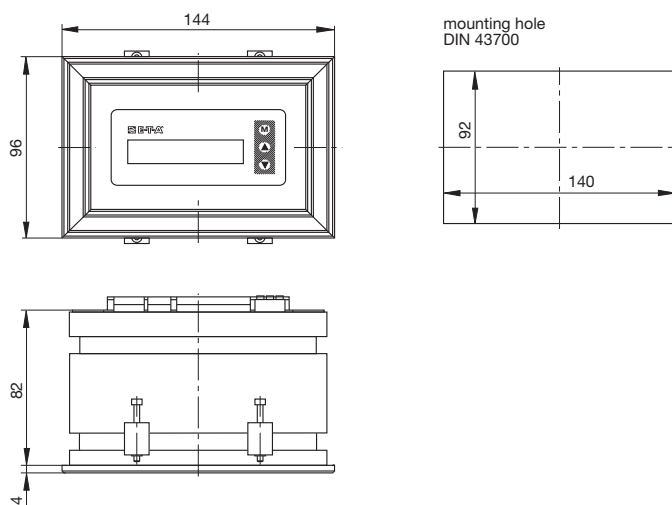

fig. 13
- Insert housing in the front of mounting hole and fix with 4 screws (see fig. 13) from the rear.